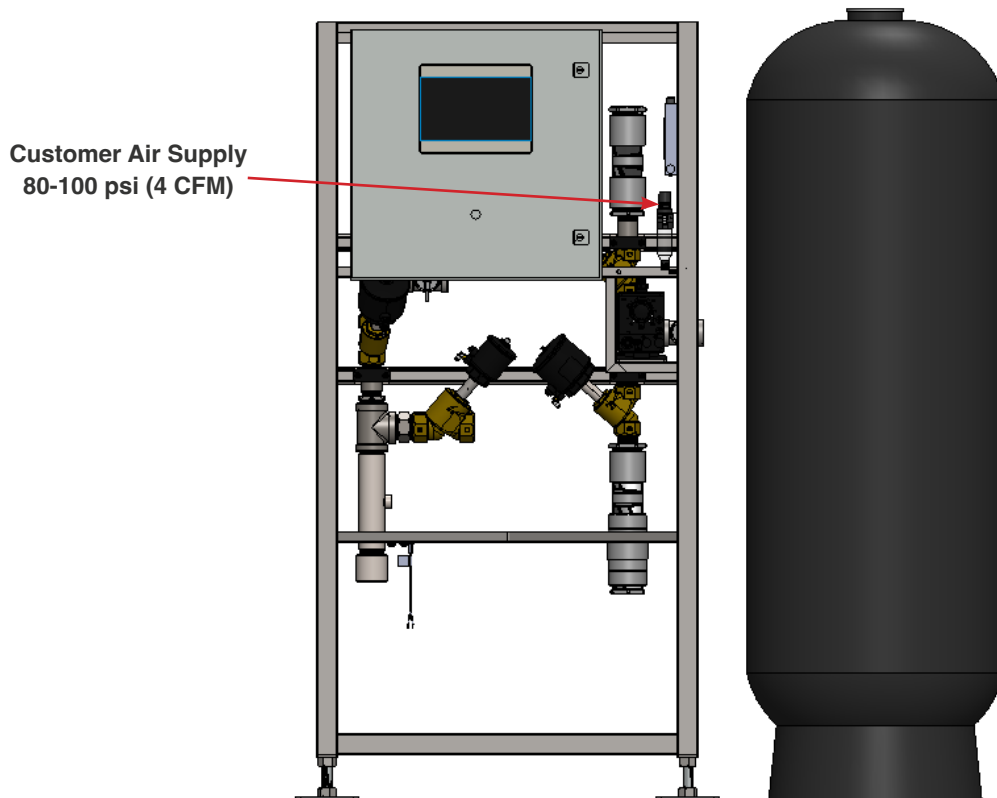

Fig. 3.3.3 - 1 - Air regulator supply line connection
1. Install an air supply to the 1/4" push connector air regulator. Verify air supply can supply 4 CFM at 80-100 psi, and adjust the air regulator to 80-100 psi (Fig. 3.3.3 - 1).